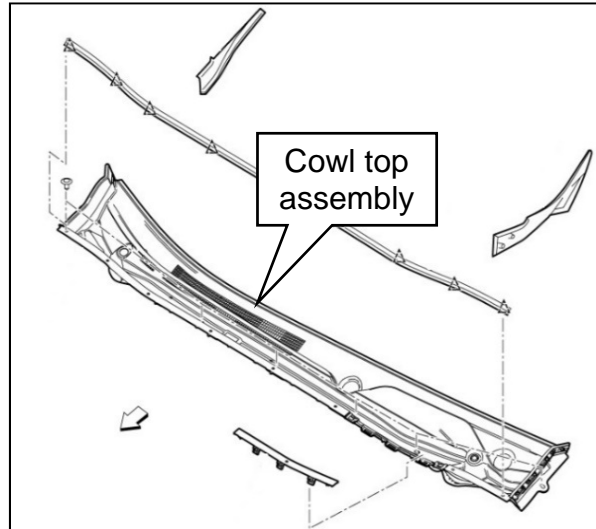

Figure 11
6. Remove the cowl top assembly (Figure 11).
- a. Remove the six (6) retaining clips.